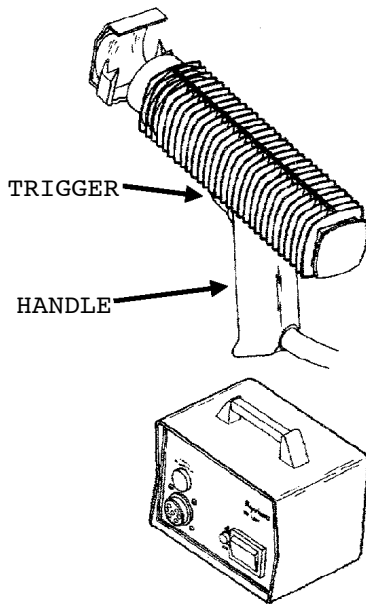

Figure 9. Infrared Heating Tool, IR-1759
29. MiniRay infrared heating tool, IR-1759 (Figure 9), is a small, lightweight, medium-duty hand heating tool designed for quiet, efficient operation. It can significantly reduce installation time on a variety of heat-shrinkable products. It is not to be used to heat shrink/recover dark colored heatshrink sleeve of any kind, as it will tend to quickly overheat and damage it. It is however, very useful for solder sleeves and environmental splices. The low profile allows product installation where work space is restricted. Specifications are listed in Table 2. The IR-1759 is available in two power configurations, one with an internal chargeable battery (XXX) and requiring external power (110VAC / 230 VAC). The controller box houses the battery (i.e. YYYY). This type may be employed for 30 typical applications.
30. PRE-OPERATION. Prior to using infrared heating tool (Figure 9), proceed as follows:
34. **OPERATION.** To operate infrared heating tool (Figure 9), proceed as follows: